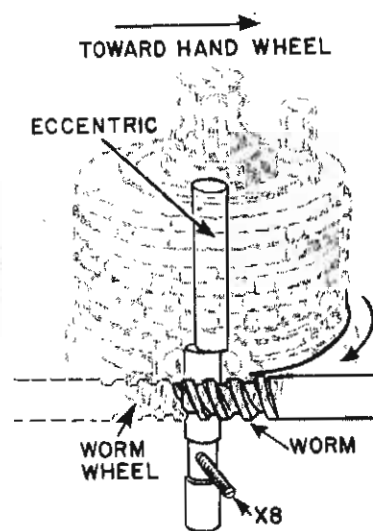

Fig. 323A. Eccentric Worm Wheel Shaft and Worm Wheel
1. Assemble cam stack as a complete unit to machine. Upper eccentric half of eccentric worm wheel shaft **F8** should be turned toward the hand wheel end of shaft, as shown in **Fig. 323A**.